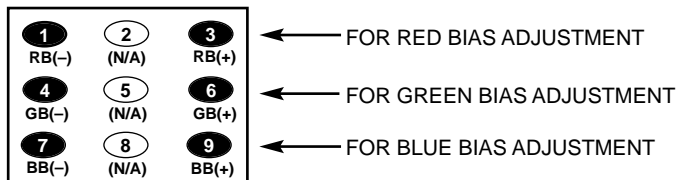

Figure 4. Remote Control Number keys' function in Service Menu No. 042
10. Raise each Bias Level with 3, 6, and 9 keys to obtain just visible white line. (See Figure 4 below.)